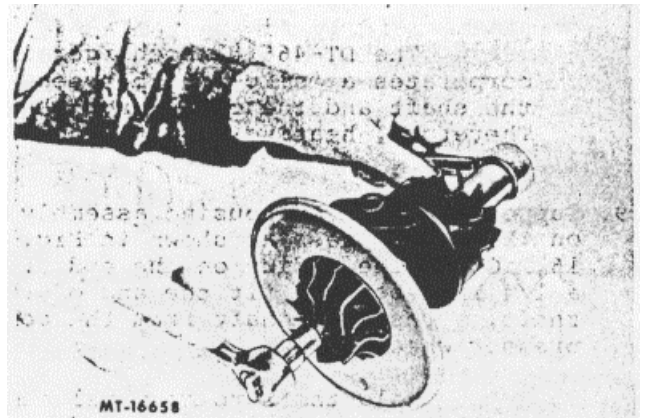

Fig. 14. Lock Nut Removal
6. Remove the locknut from the turbine shaft (Fig. 14):